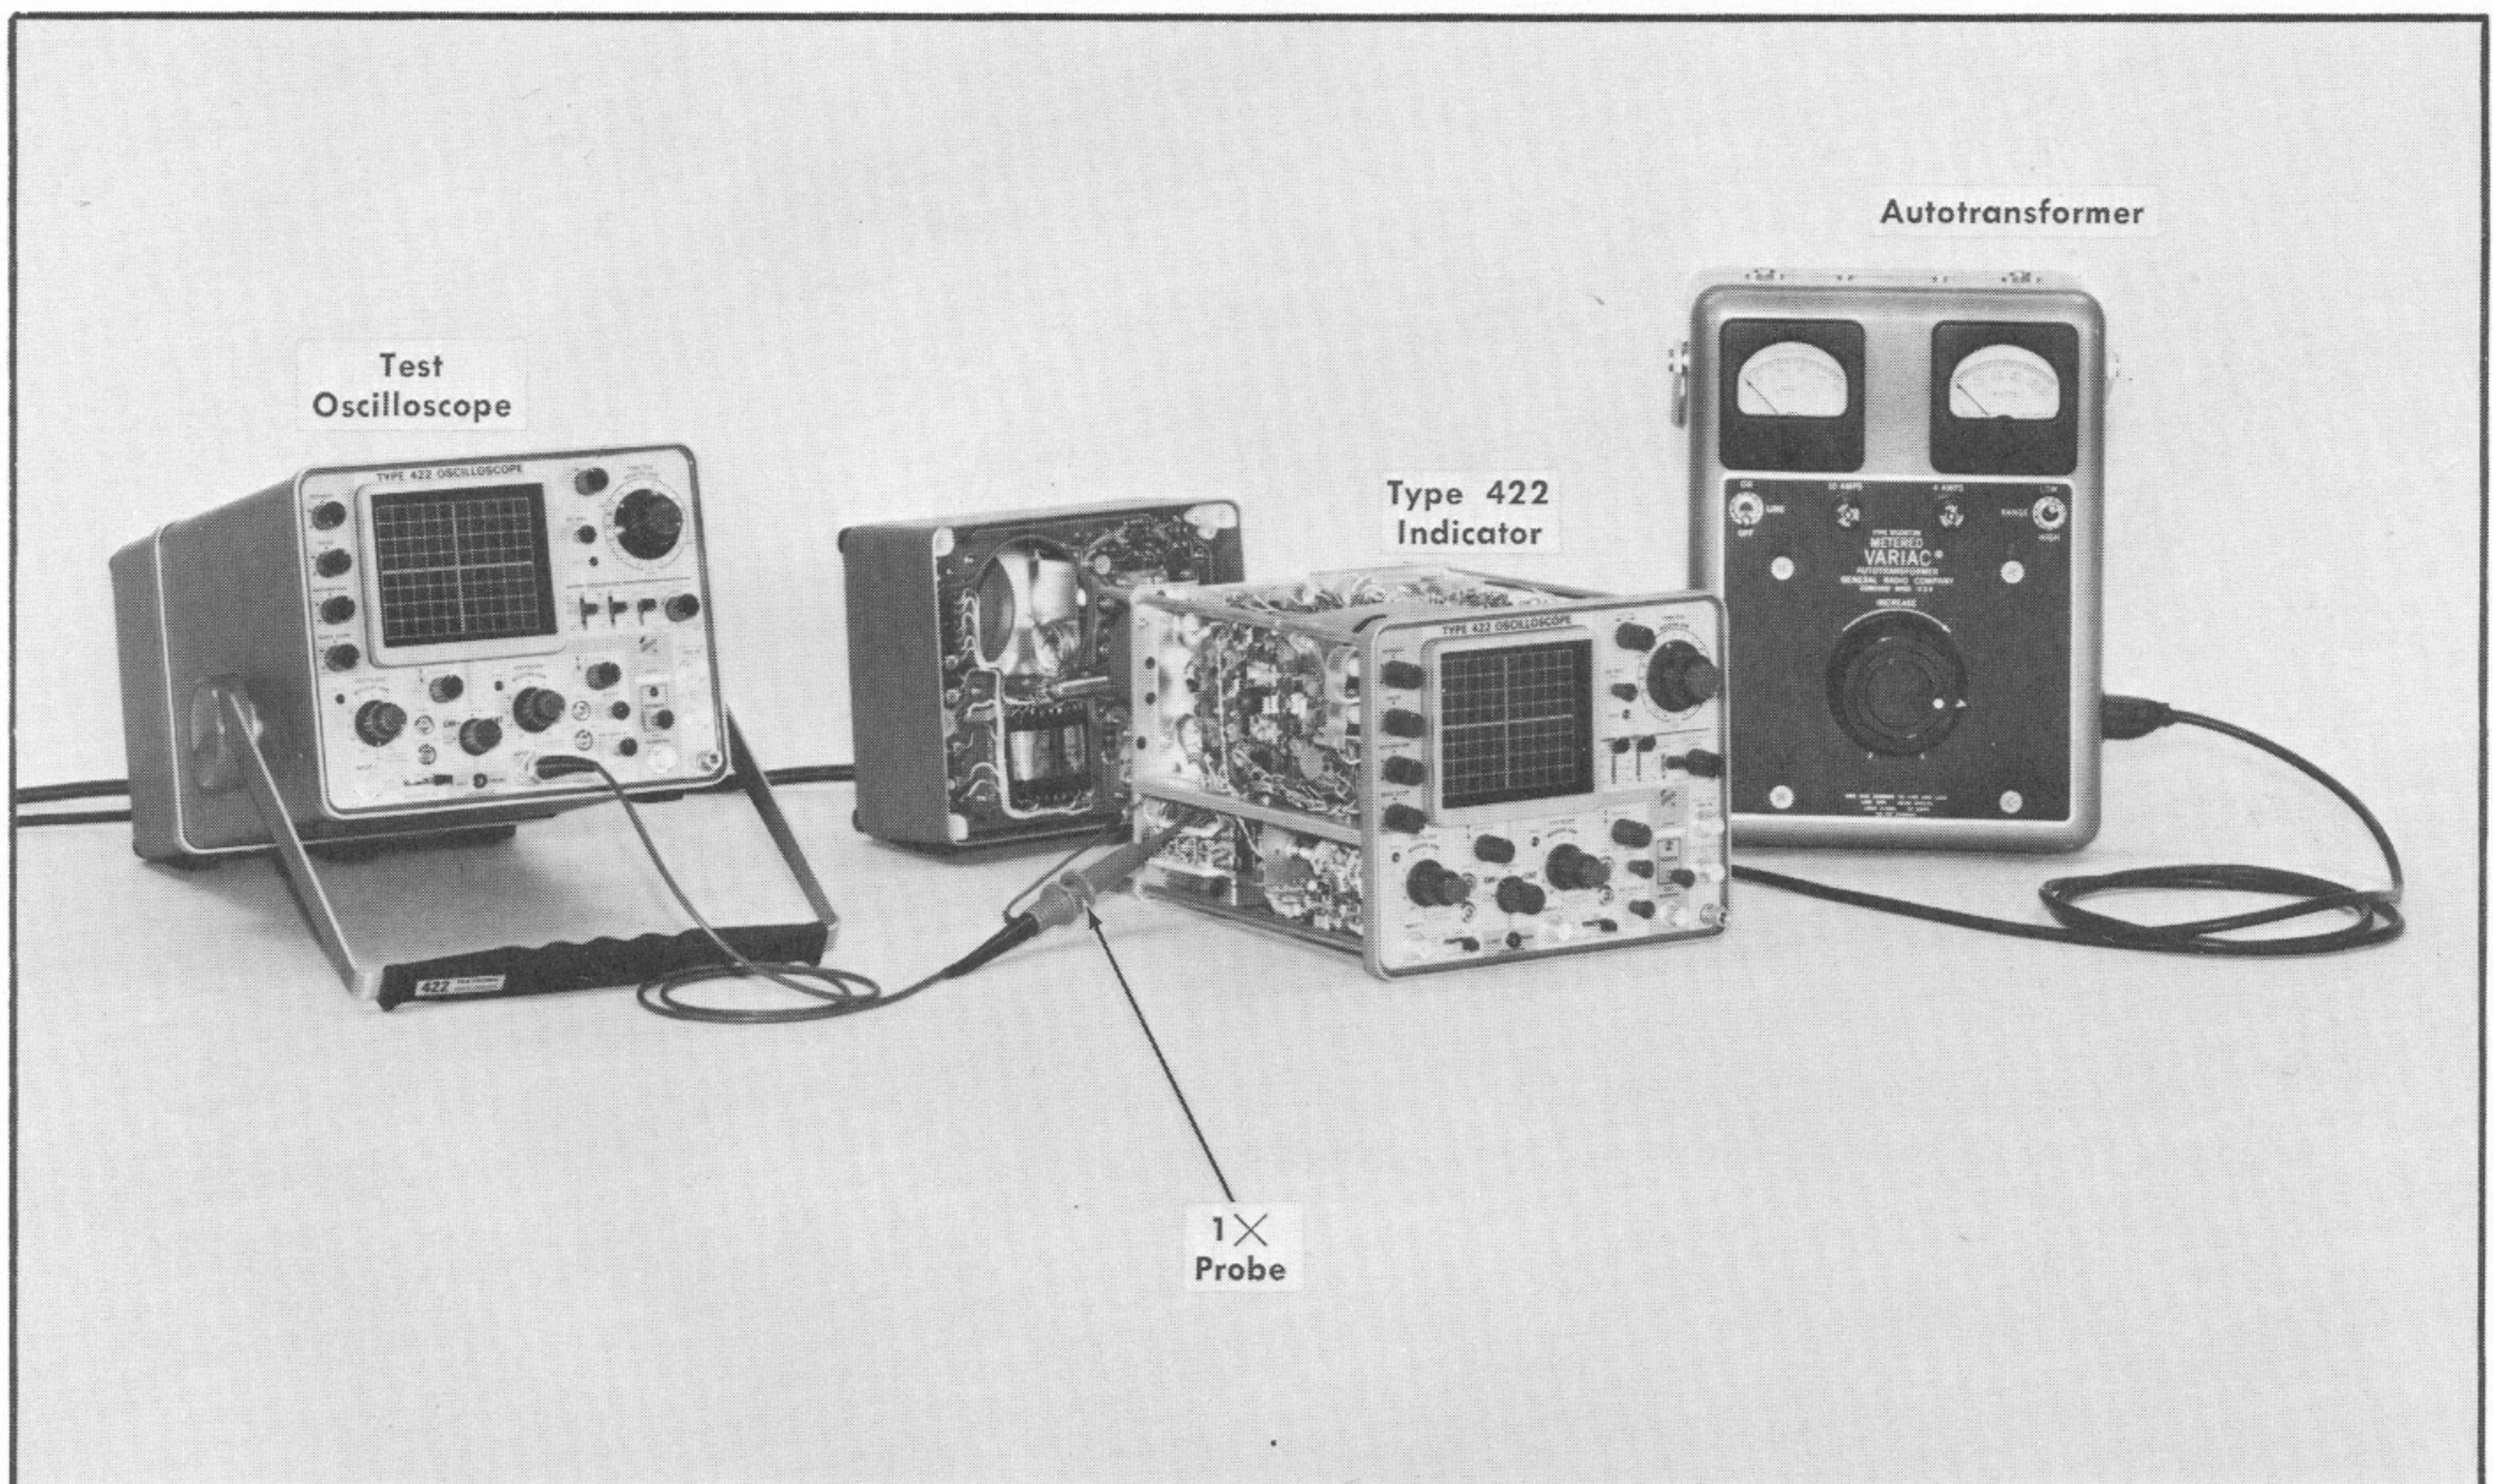

Fig. 5-4. Test equipment setup for step 4.
a. Test equipment setup is shown in Fig. 5-4.